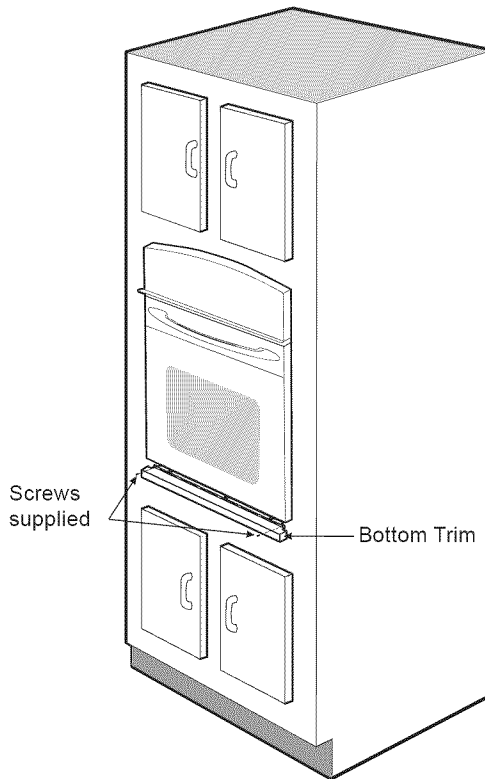

Figure 7
B. Attach the trim using the provided screws (see Figure 7).